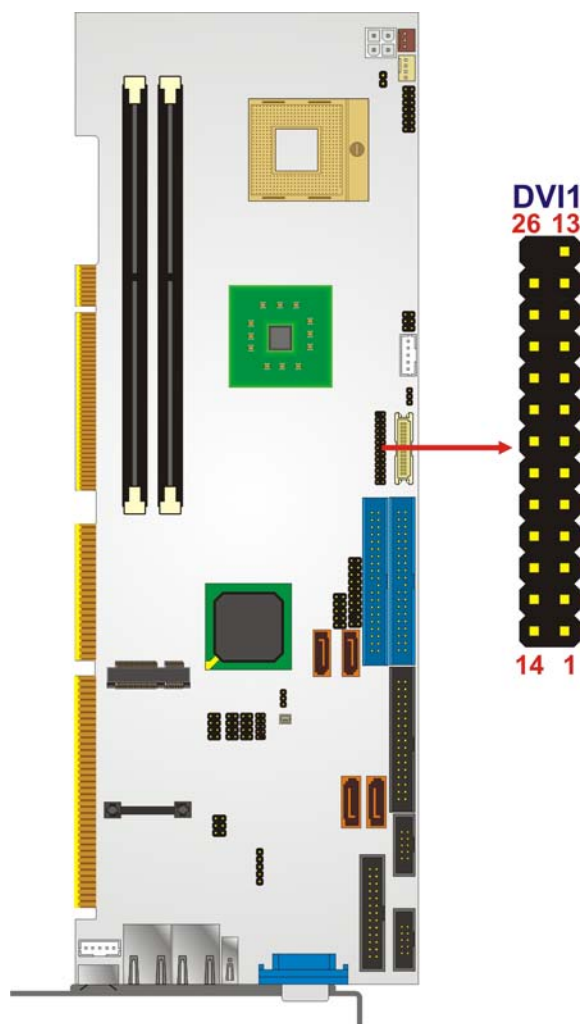

Figure 4-7: DVI Connector Location
- CN Location:** See **Figure 4-7**